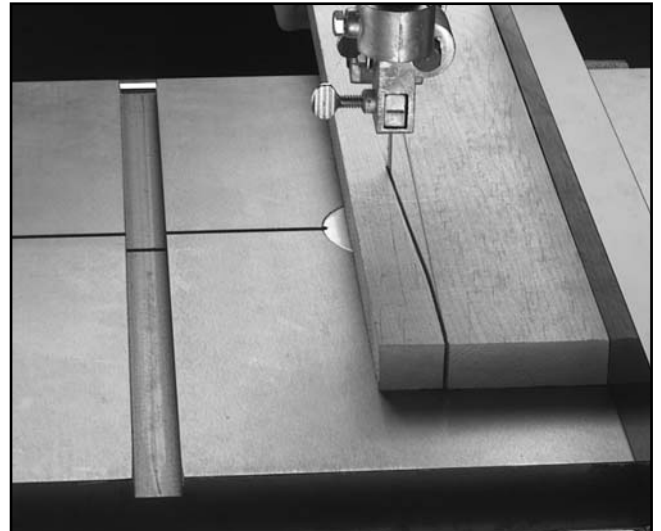

Figure 28. Blade leading away from line of cut.
Most bandsaw blades will not appear to cut straight when using the fence or miter gauge. This is called "lead." (See **Figure 28**.) Lead occurs (1) if the blade tension is incorrect, (2) if the teeth are dull on one side, or (3) if the teeth are set heavier on one side of the blade than the other.